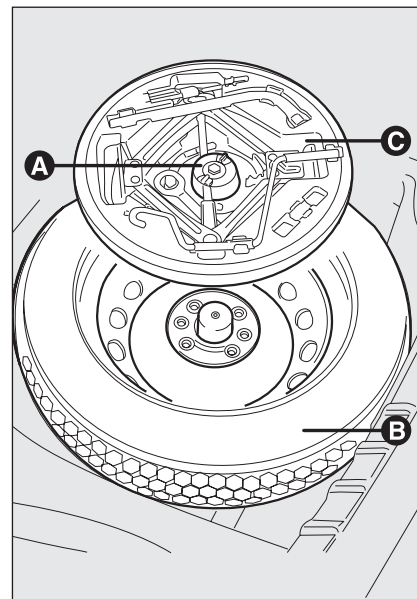

fig. 2
- ☐ loosen the fastener **A-fig. 2**;
- ☐ take out the tool box **C-fig. 2** and take it near to the wheel to be changed;
- ☐ take the spare wheel **B-fig. 2**;
- ☐ fit the jack partially open in its box **C-fig. 2** forcing it lightly to prevent it from vibrating when travelling;
- ☐ stow the container **C-fig. 2**, complete with tools in the spare wheel;
- ☐ tight the tool box fastener **A-fig. 2**;